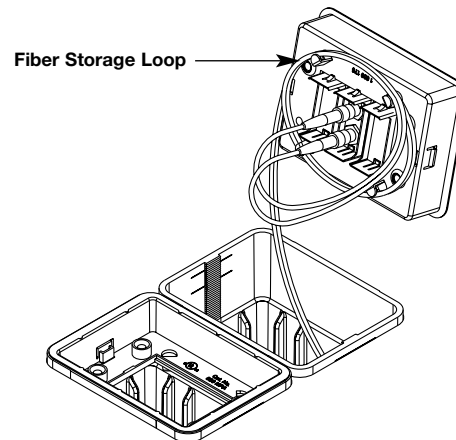

Figure 5
12. Bend radius control for fiber optic communication activations is maintained by wrapping the cable around the storage loop on the underside of the cover adapter prior to installation (see Figure 5).